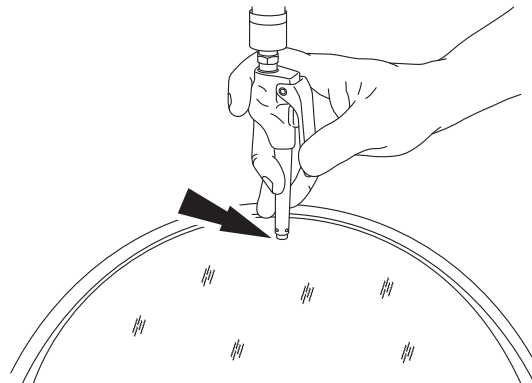

Figure 20
4. Use the compressed air nozzle to lightly blow through the top of the DPF, covering the entire area of the substrate face. See Figure 20. This exercise helps to dislodge the ash that clings to the underside of the DPF.
5. Apply five (5) quick blasts of air by pressing the discharge button on the control panel five (5) times. Use a quick (one second) press and release motion.